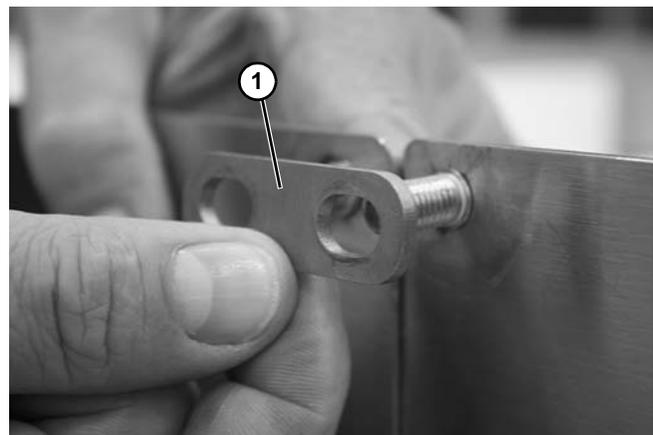

Figure 20
4. Install the connecting plate (Figure 20, item 1) over the studs.